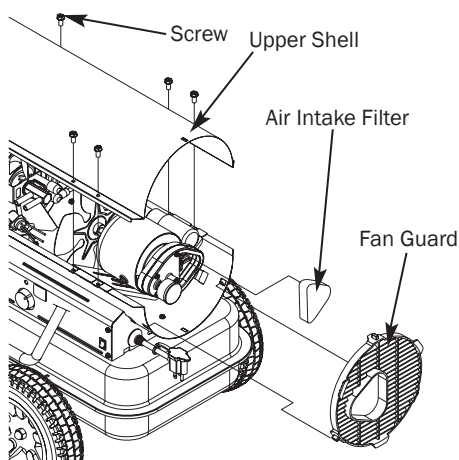

Figure 10 - Air Filter Access
- Remove upper shell and fan guard (See Air Intake Filter Figure 10).
- Remove upper shell (See Air Intake Filter Figure 10).